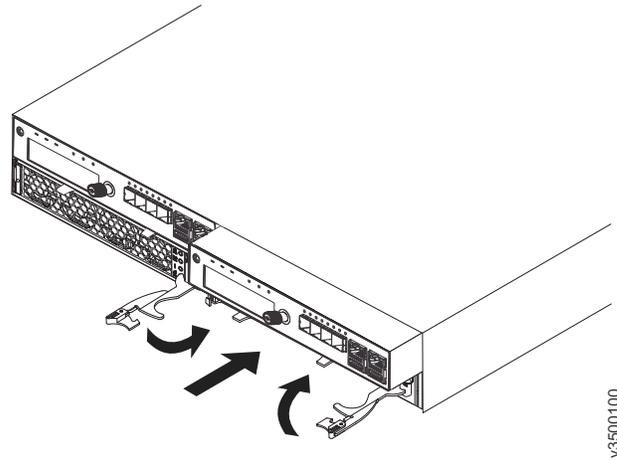

Figure 25. Installing a node canister
2. Turn the canister over and install it in the control enclosure as shown in Figure 25.